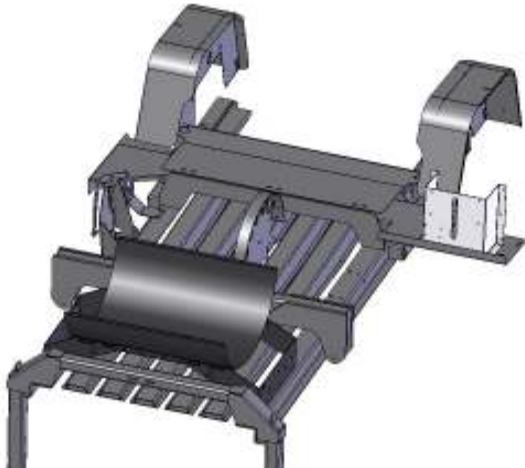
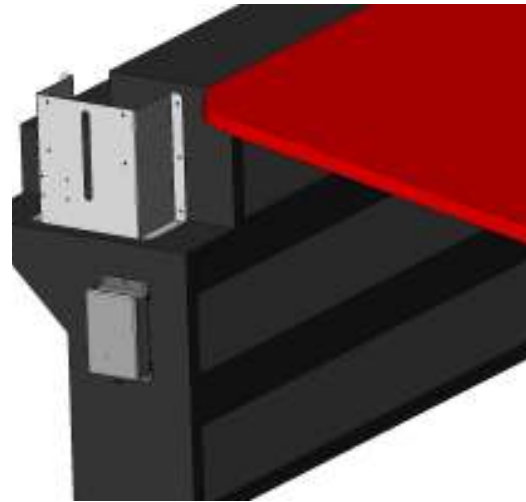

Figure 1
Figure 2
Locate the tank and mounting bracket assembly. Looking at Figures 1, 2 & 3 decide which of these mounting locations will be the most convenient and work the best for the user.
1. Once you have the tank and mounting bracket securely fastened to the baler, locate parts A, B, C, D & E pictured below in Figure 1 or 2. Assemble in the following order: (A)elbow/(B)nozzle holder/(C)check valve/(D)reducing bushing/(E)tip as pictured in Figures 1 or 2. (Figure 1- Large Squares; Figure 2 - Small Squares)
1. The moisture sensed by the star wheels is marked 1 in Figure 1 below. See page 9 for set-up instructions.